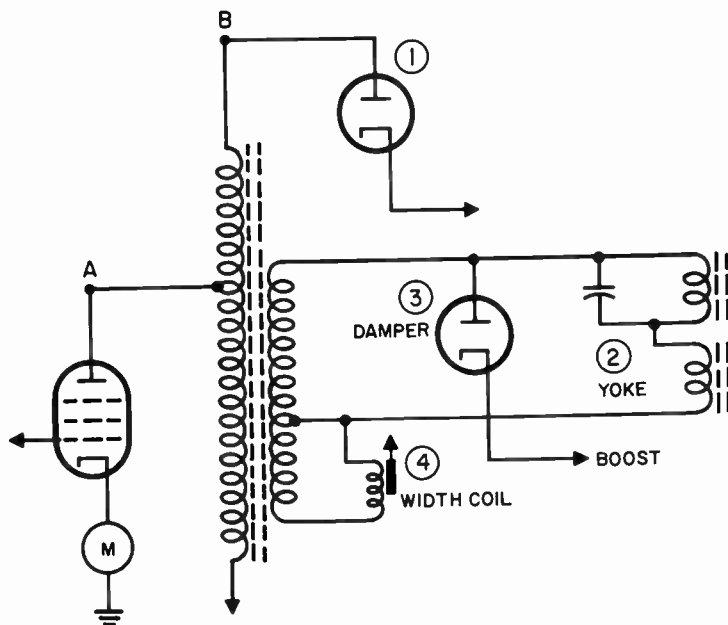

Fig. 806. Horizontal output tube and flyback transformer showing the various loads which they supply.
The other thing that can cause current overload, of course, is a short or leakage somewhere in the load circuit, the flyback or yoke or damper, etc. Look at Fig. 806. Here, we have a power tube (A) driving a load through a transformer (B). Normally, it will draw a certain amount of current, which will read on the meter (M). Anything that happens in the transformer *or* the load will increase this current. How can we find out just which one of the various 'loads' (1, 2, 3 or 4) is responsible for the trouble? Disconnect them!